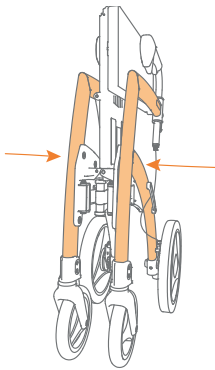

Figure 20: Push the frame further inside.
- e. Push the sides of the frame towards each other until the rollator is completely folded (**Figure 20**).